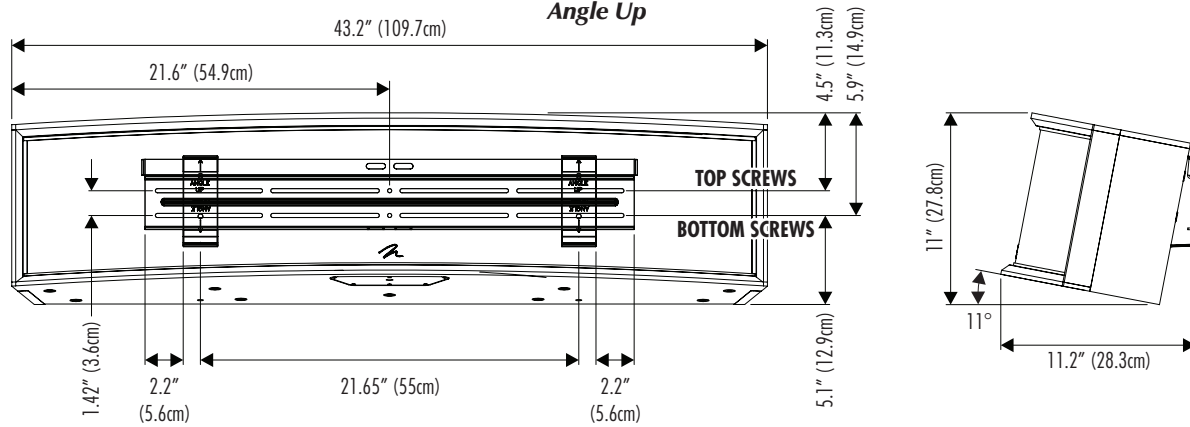

Figure 4
- 10 As shown in figure 4, install the safety strap onto the wall bracket.